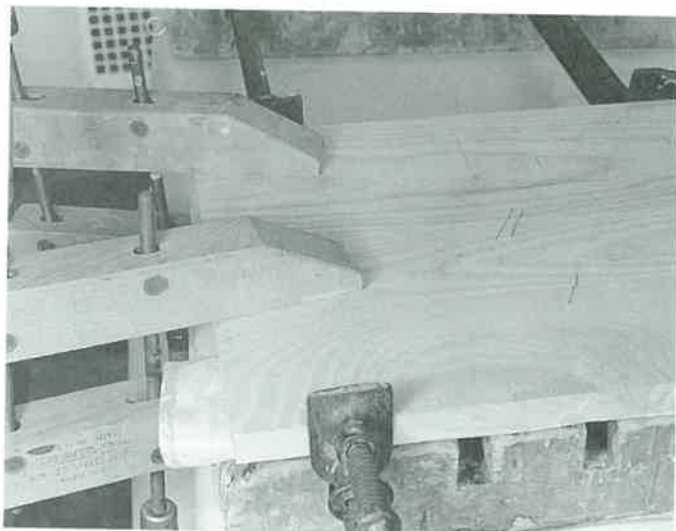

Figure 33-28. Hand screws hold boards against bar clamp for alignment.
12. If one or several pieces are cupped, clamp them to the bottom bars with hand screws. See **Figure 33-28**.